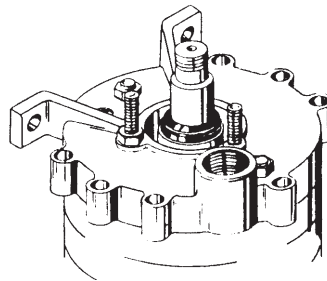

Figure 4-13
22. The seal rotating element can now be installed. (refer to figure 4-13) One and two stage pumps position the seal (#12B) by a shoulder on the shaft. Three and four stage pumps locate the seal